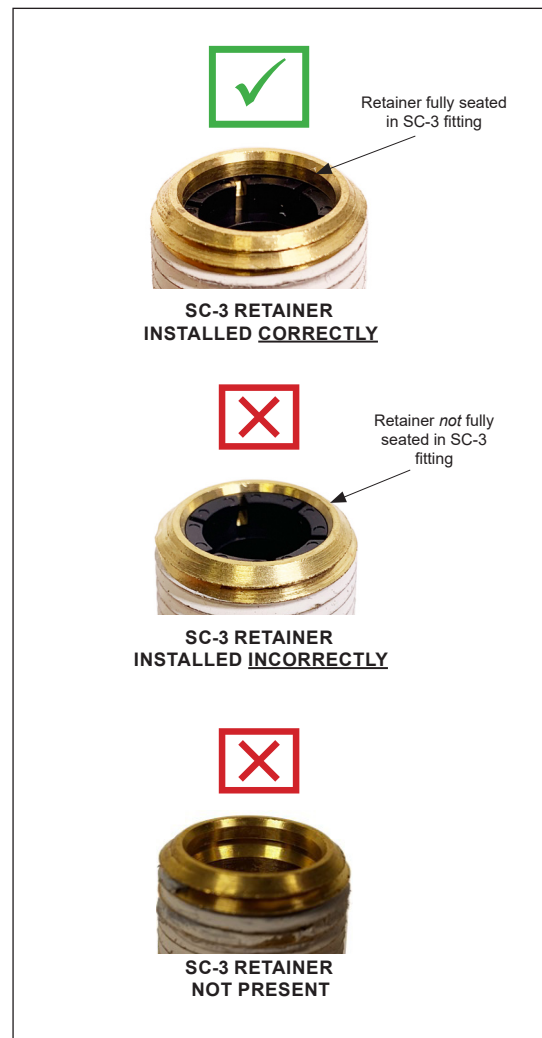

Figure 1 - SC-3 Single Check Valve Retainer
2. See Figures 1 and 2. Inspect the SC-3 single check valve retainer. If the retainer is fully seated, it is correctly installed and not affected by this recall campaign. If the retainer is not fully seated, or is missing, damaged, or the shuttle or retainer are missing or fractured, the SC-3 single check valve falls within the recall parameters. The SC-3 single check valve needs to be replaced. If the shuttle or the retainer are missing (not located in the SC-3 fitting nor in the supply port of the SR-7 spring brake modulating valve) or fractured, the SR-7 spring brake modulating valve will need to be replaced as well.
2. See Figures 1 and 2. Inspect the Bendix® SC-3™ single check valve retainer. If the retainer is fully seated, it is correctly installed and not affected by this recall campaign. If the retainer is not fully seated, or is missing, damaged, or the shuttle or the retainer are missing or fractured, the SC-3 single check valve falls within the recall parameters. The SC-3 single check valve needs to be replaced. If the shuttle or the retainer are missing (not located in the SC-3 fitting nor in the supply port of the Bendix® SR-7® spring brake modulating valve) or fractured, the SR-7 spring brake modulating valve will need to be replaced as well.